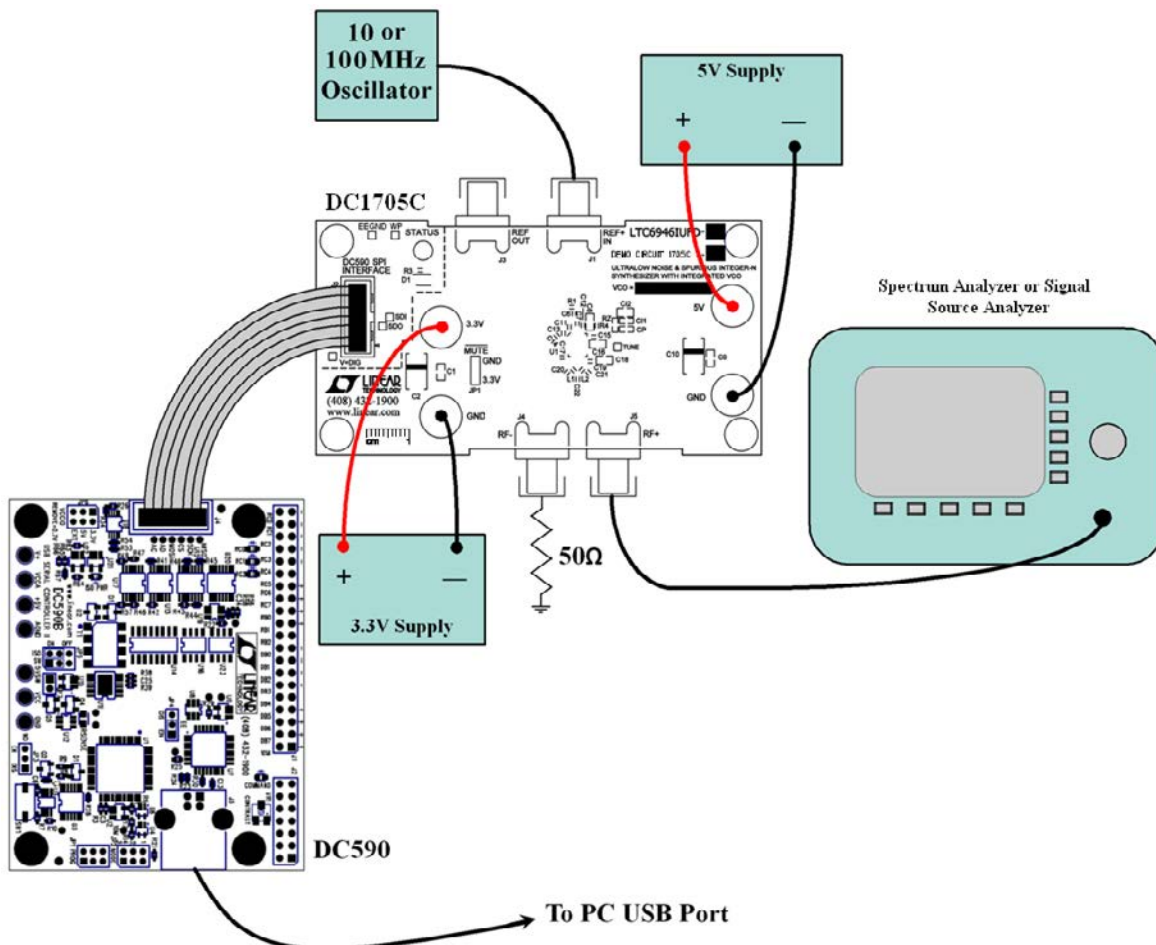

Figure 1. Proper Measurement Equipment Setup
1. Connect an appropriate reference frequency source (at J1) and signal analyzers (at J4 and/or J5) using the SMA connectors (see Figure 1 and the Typical DC1705C Requirements and Characteristics table).
3. Connect the GND, 3.3V and 5V banana jacks to a power supply and apply power (see Figure 1 and the Typical DC1705C Requirements and Characteristics table).